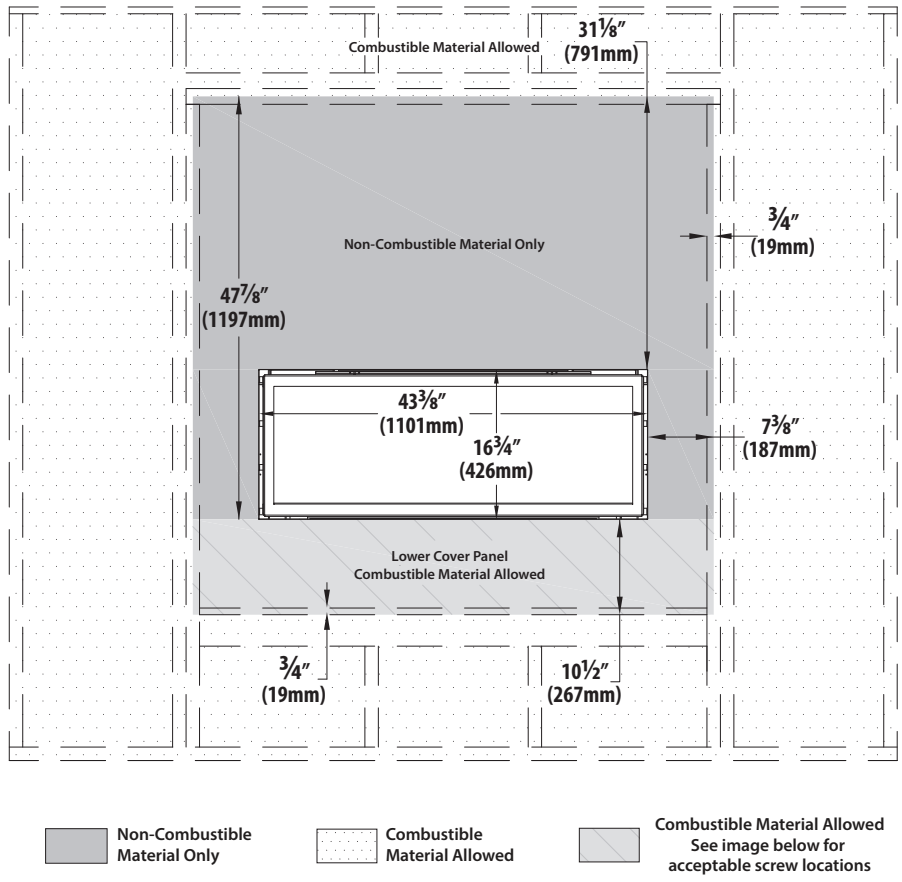
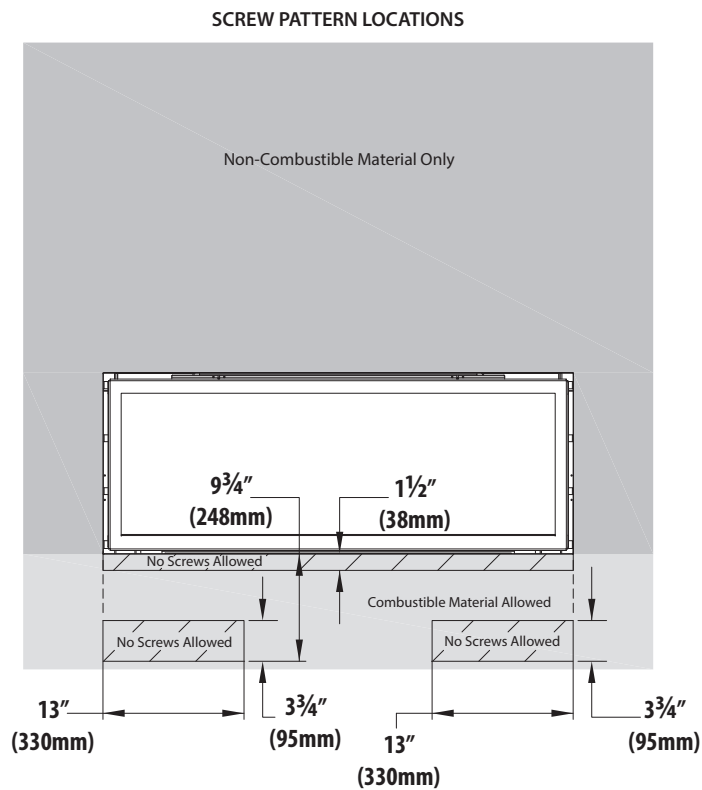

Figure 4.4, Standard Installation Minimum Non-Combustible Finishing Dimensions
Figure 4.5, Standard Installation Minimum Non-Combustible Finishing Dimensions Screw Locations
- Non-combustible material is required at the top and sides of the fireplace. This fireplace is designed to accommodate non-combustible facing material up to 3/4" (19mm) thick. See Figure 4.4 and Figure 4.5 for dimensions.
- It is acceptable to pre-drill holes and to use self-tapping screws prior to attach the non-combustible material to the top and sides of the fireplace face. In Figure 4.5, screws can only penetrate the fireplace outer shell up to 1/2" (13mm) in the allowed areas.
3. Do not use screws above the framing for the gas and electrical components when installing the bottom panel. See Section Figure 4.4, Minimum Non-Combustible Finishing Dimensions on page 20 for maintaining required areas.